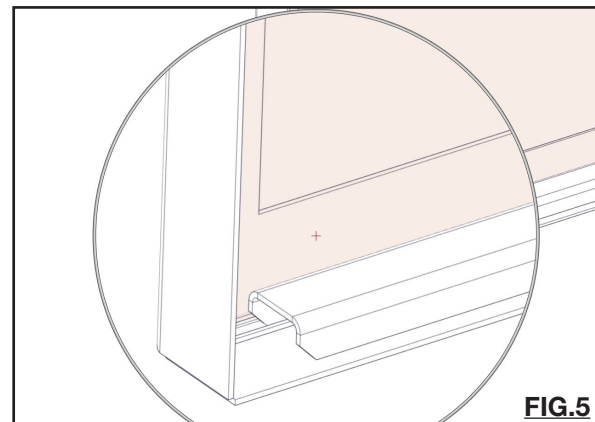

FIG.5
- G. Reposition top and bottom retainers using screws removed in Step C. **Ensure retainer is in position correctly. (FIG. 5)**